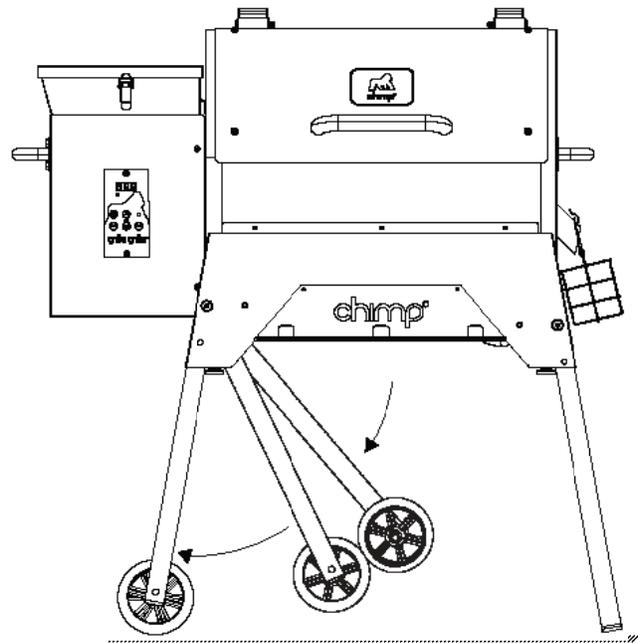

FIG 2
STEP 2 - Now lift hopper side using the handle on the hopper (FIG 1). Again push the metal detents on both sides of your grill to release the wheel legs, click them into place (FIG 2).